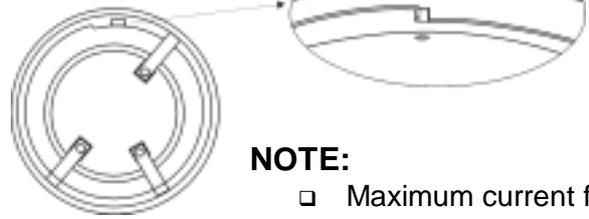

Fig 1
The bases used with the Addressable Remote Indicator should be wired as shown in Fig 2 below. The CHQ-ARI(CLR) can also be locked onto the relevant base by removing a plastic lug on the underside of the remote indicator, please refer to Fig 1. The Addressable Remote Indicator can only then be removed by using a special Removal Tool (TSC-A100/ALG) which is available from Hochiki Europe (UK) Ltd.